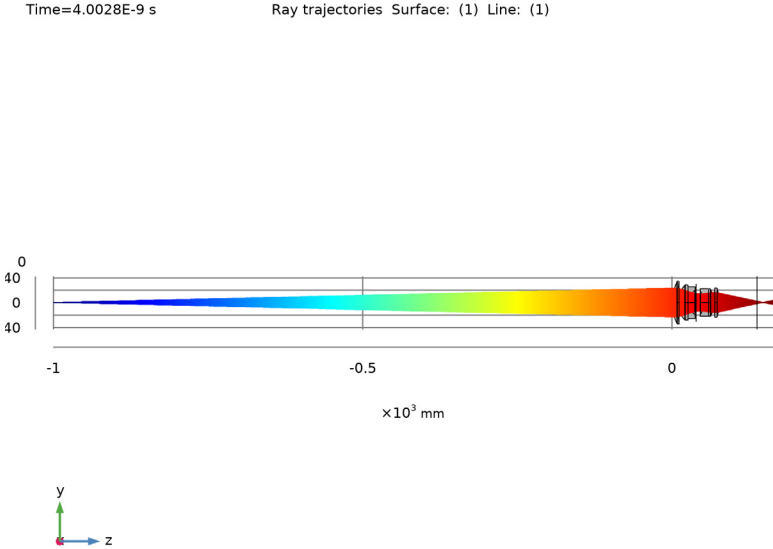

Figure 2: A ray diagram showing the finite conjugate ray trace. The rays now pass through the nominal focal plane.
We do this by releasing a cone of rays from the point on the optical axis intersecting the object plane. The rays can be made to ignore the image surface because, as can be seen in the Ray Diagram shown in Figure 2, the focus is now somewhere behind this plane.
- 5 Click the  **Zoom Extents** button in the **Graphics** toolbar. Compare the result to Figure 2.